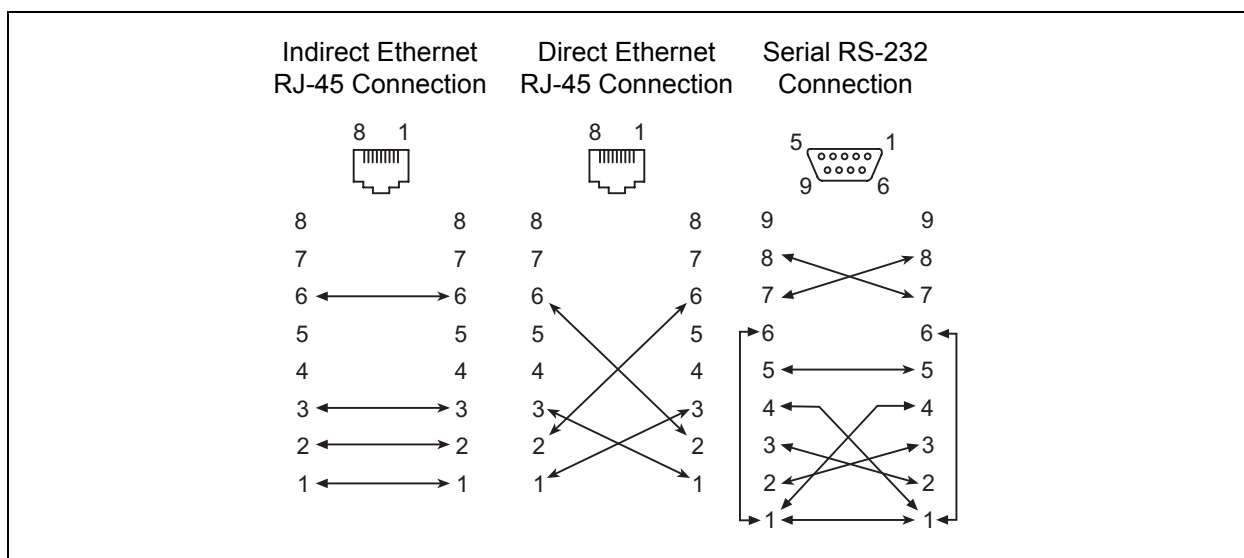

Figure 4-3. Ethernet and Serial Cable Connections
- Indirect Ethernet connection from the management workstation to the switch RJ-45 Ethernet connector through an Ethernet switch or a hub. This requires a 10/100 Base-T straight cable as shown in Figure 4-3. With this method, you can manage the switch with the SANsurfer Switch Manager application or Command Line Interface.
- Direct Ethernet connection from the management workstation to the switch RJ-45 Ethernet connector. This requires a 10/100 Base-T cross-over cable as shown in Figure 4-3. With this method, you can manage the switch with the SANsurfer Switch Manager application or Command Line Interface.
- Serial port connection from the management workstation to the switch RS-232 serial port connector. This requires a null modem F/F DB9 cable as shown in Figure 4-3. With this method, you can manage the switch with Command Line Interface.